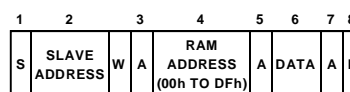

Figure 9c. Single Byte Write To RAM
1. Write a single byte of data to RAM. In this case the command byte is the RAM address from 00h to DFh and the (only) data byte is the actual data. This is illustrated in Figure 9c.
this case the command byte is the high byte of the EEPROM address from F8h to F9h. The (only) data byte is the low byte of the EEPROM address. This is illustrated in Figure 9c.